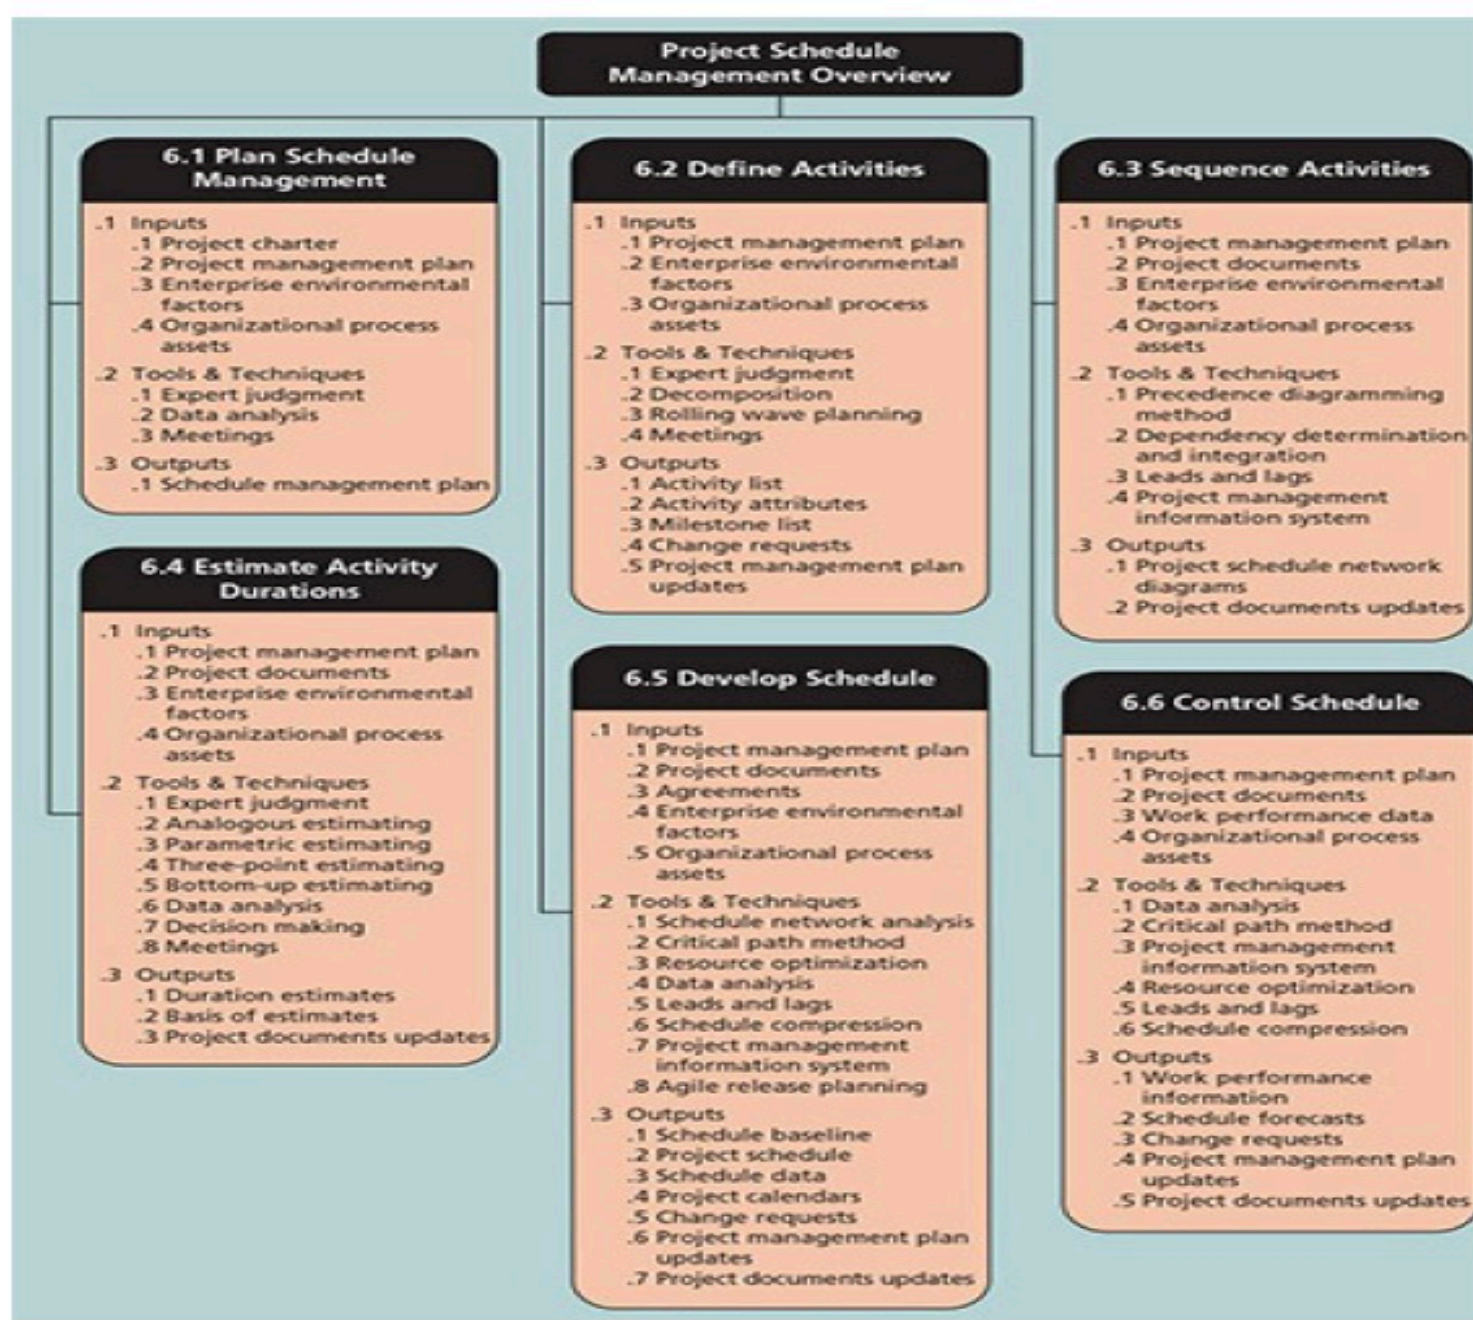

Figure 4.1 Project Schedule Management Overview
- A project schedule management can be improved by performing processes such as at figure 4.1 and by using some basic project management tools and techniques.